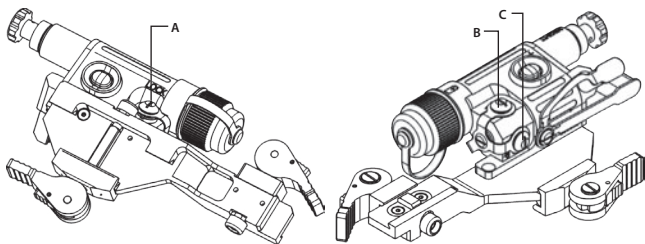

FIGURE 3-12. BORESIGHT ADJUSTMENT SCREWS
Figure 3-12 shows the boresight adjustment and lock screws.
Adjust the AIM-PRO boresight with the LOCK screw (Figure 3-12, A) loosened.
To shift the aiming mark to the right, turn the screw (Figure 3-12, C) towards the arrow to the right (CCW). To shift it to the left, turn the screw (C) towards the arrow to the left (CW).
To shift the Aiming mark up, turn the screw (Figure 3-12, B) up towards the arrow (CCW). To shift the Aiming mark down, turn the screw (B) down towards the arrow (CW).